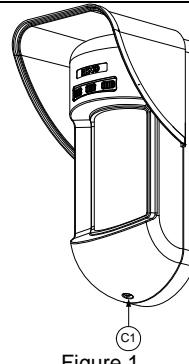

Figure 1
1. Open WatchU front cover (unlock C1, Figure 1).
- Close the front cover (Lock C1, Figure1) after wiring and setting DIP switches.